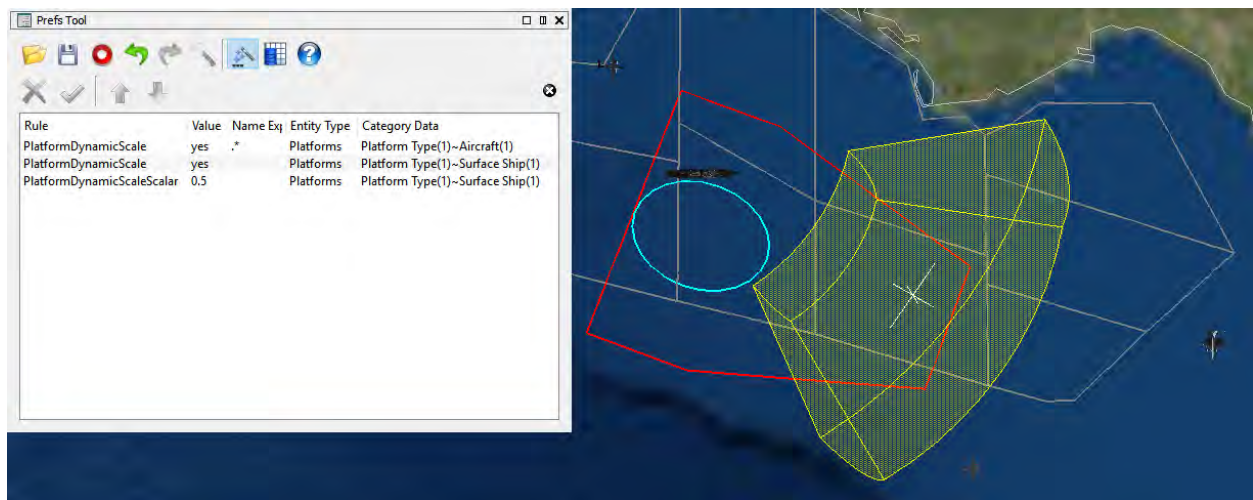

Figure 5.22: Appended Rules
29. Open the **Surface.rul** preference rule file. Observe the **Main Display**, you should be able to see the scaled **Aircrafts** and **Surface Ships**. Your display should look similar to Figure 5.22.